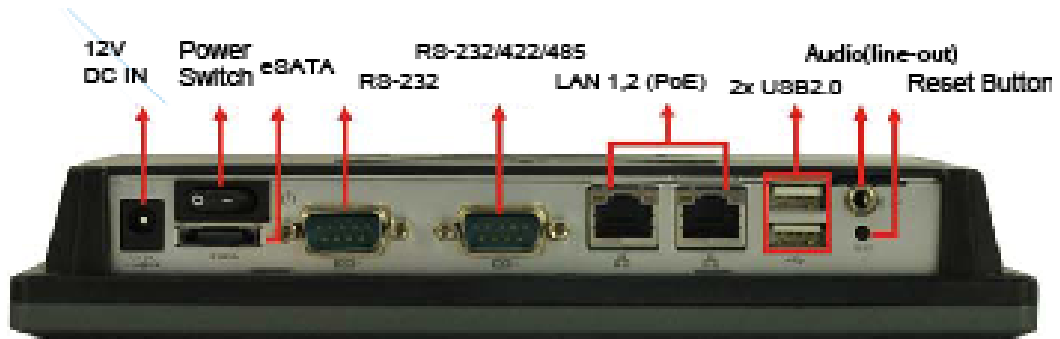

Figure 3-1: AEVU-751-X86 Peripheral Connectors
- CN Location: See **Figure 3-1**